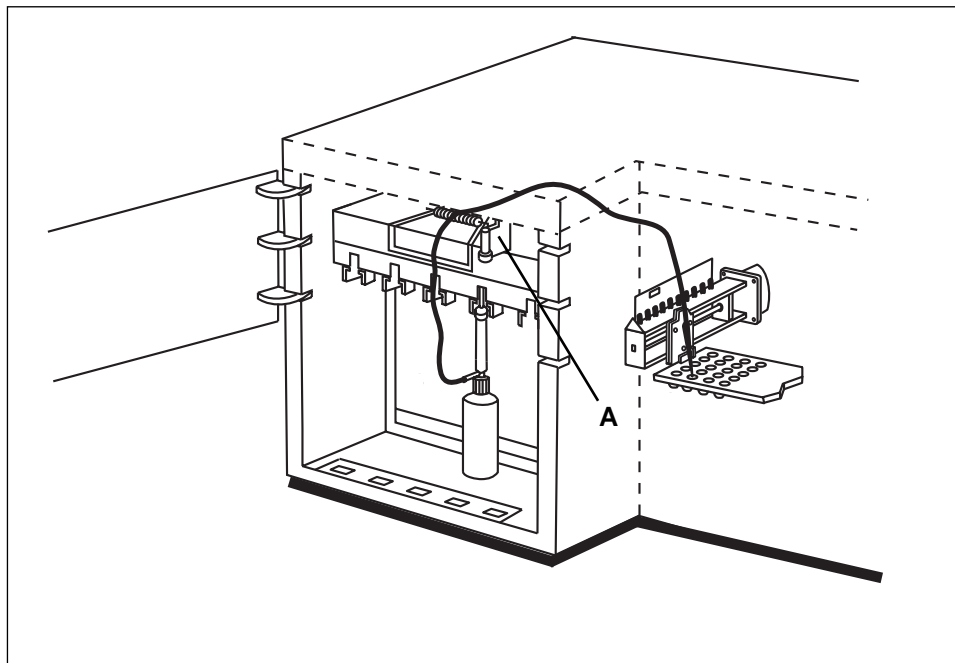

Figure 1.13
Reagents are dispensed from dispensers loaded in any of five component stations located on the front of the instrument and identified with bar code labels (Figures 1.13), three for conjugate and one each for OPD and acid. (Station 1 is located closest to the left). Dispensers are pumped by the component actuator (A) which automatically positions itself over the component station to be used. Dispenser lines and tips are fed from the component station to the dispense tip holder located over the tray track inside the instrument.